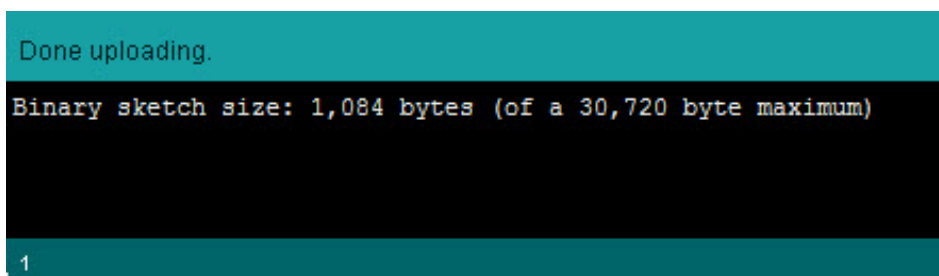

Figure2.4.11
2.4.10. If completely uploaded an example program (Blink Program) then information will be shown **“Done uploading”** and “Binary sketch size” as figure2.4.11 then Yellow LED (D13 port) will be displayed blink with the rate is ON=1sec. and OFF=1sec. continuously.